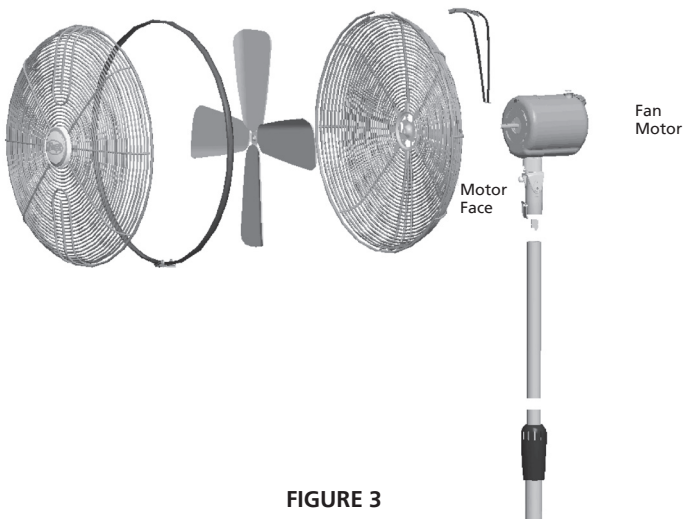

FIGURE 3
1. Loosen the Height Adjustment Grip on the Telescoping Pole by turning it counterclockwise. See Figure 3. **NOTE:** To prevent the plug from dropping into the Telescoping Pole, grasp the plug before you raise the Telescoping Pole. Raise Telescoping Pole approximately 10 inches. Turn the Height Adjustment Grip clockwise to set the height of the Telescoping Pole.
2. Remove the Motor Mount Set-screw (pre-loaded and tagged) and set it aside for later reinstallation. See Figure 3.